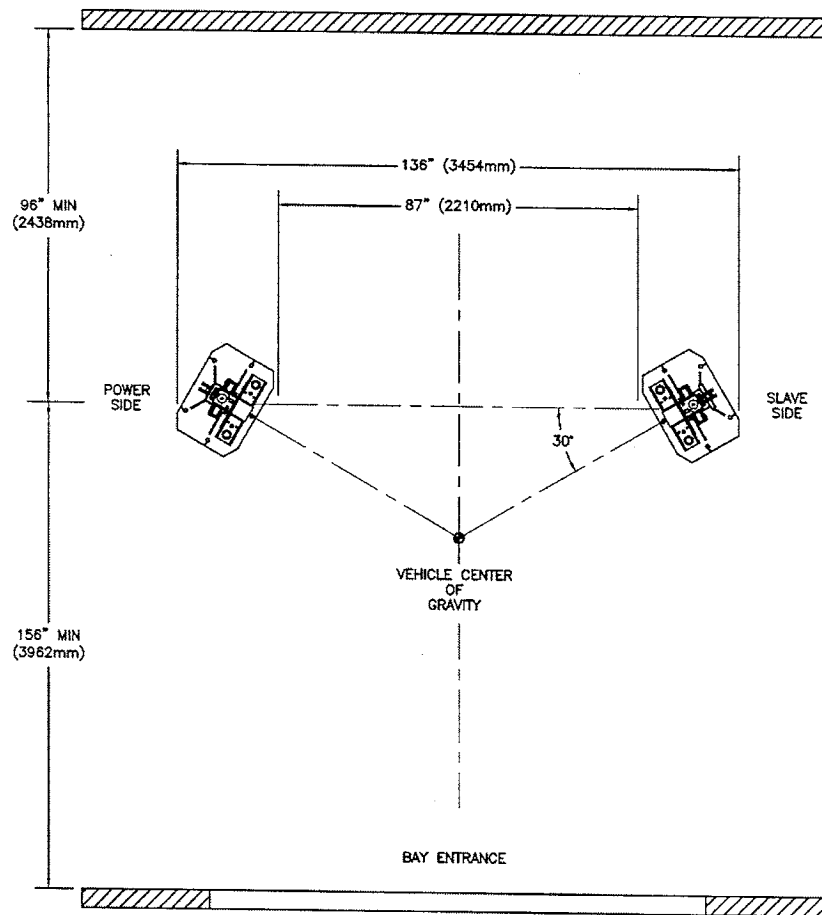
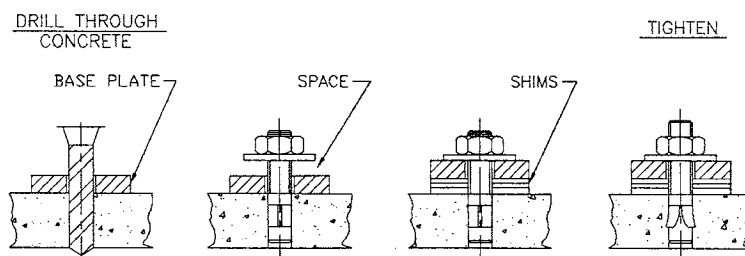

Figure 3 – Bay Layout
Figure 16 – Anchor Bolts
7. Prepare the bay by selecting the location of the lift relative to the walls. Clear the installation area of all packaging materials to avoid trip hazards. Draw a chalk line on the floor to represent the centerline of the bay then draw a second chalk line at 90° for locating the lift towers. Refer to **Figure 3**.
1. Locate the power side and slave side towers and position them as shown in **Figure 3**. Double check all the dimensions in the layout.
3. Check the towers to make sure they are located, and positioned in the correct location. Refer to **Figure 3**.
3. Refer to Bay Layout (**Figure 3**) to ensure that the column is still in the proper position. Using a rotary hammer drill with a 3/4" masonry drill bit, drill holes in the floor on the high side column using the tower baseplate as a template. Make sure that the 3/4" masonry drill is in good condition (**Figure 16**).
4. Carefully clean out drilling dust from the anchor holes. Hammer in the anchor bolts (**Figure 16**). Hand tighten all anchor bolts.
6. Torque all anchor bolts to 150 ft-lbs. (203 Nm), continually checking that the column is level as you proceed. If anchor bolts do not tighten to 150 ft-lbs. OR project more than 1 3/4" above the concrete surface (**Figure 16**), the concrete MUST be replaced by an appropriate concrete pad. (*Consult Product Manufacturer / Supplier for further details*).
2. Refer to Bay Layout (**Figure 3**) to ensure that the column is still in the proper position. Using a rotary hammer drill with a 3/4" masonry drill bit, drill holes in the floor on the low side column using the tower baseplate as a template. Make sure that the 3/4" masonry drill is in good condition (**Figure 16**).
3. Carefully clean out drilling dust from the anchor holes. Hammer in the anchor bolts (**Figure 16**). Hand tighten all anchor bolts.
5. Torque all anchor bolts to 150 ft-lbs. (203 Nm), continually checking that the crossmember and column are level as you proceed. If anchor bolts do not tighten to 150 ft-lbs. OR project more than 1 3/4" above the concrete surface (**Figure 16**), the concrete MUST be replaced by an appropriate concrete pad. (*Consult Product Manufacturer / Supplier for further details*).